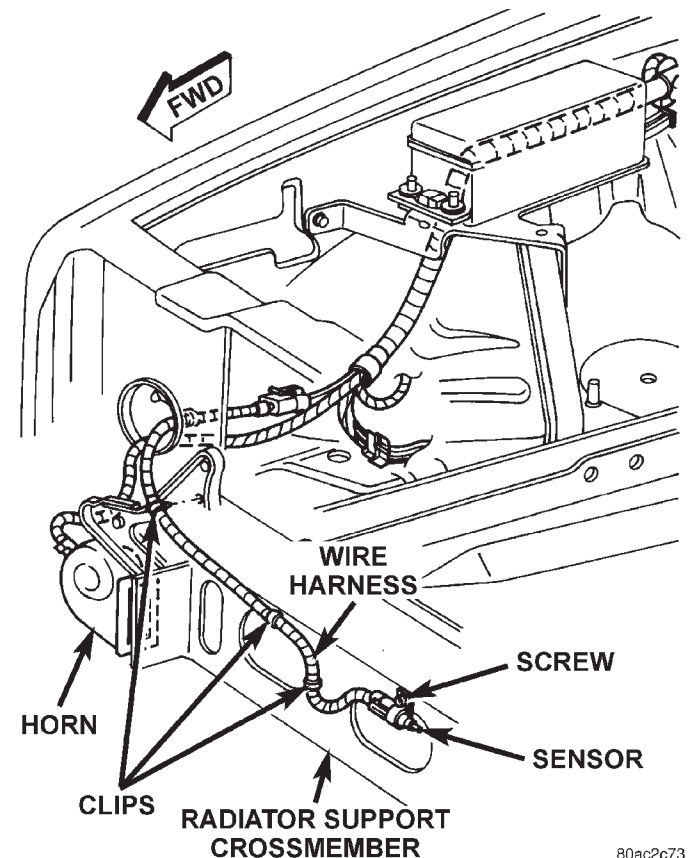

Fig. 7 Ambient Temperature Sensor Remove/Install
- (1) Disconnect and isolate the battery negative cable.
- (2) Locate the ambient temperature sensor, below the grille and behind the front bumper on the radiator support crossmember (Fig. 7).